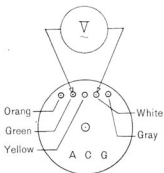
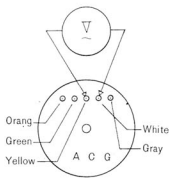

Fig. 6-2-2 Day time no-load voltage
Fig. 6-2-3 Night time no-load voltage
- b. Connect tester leads (a. c. 100V) to the terminals as shown in Fig. 6-2-2 (day-time) and in Fig. 6-2-3 (night-time).